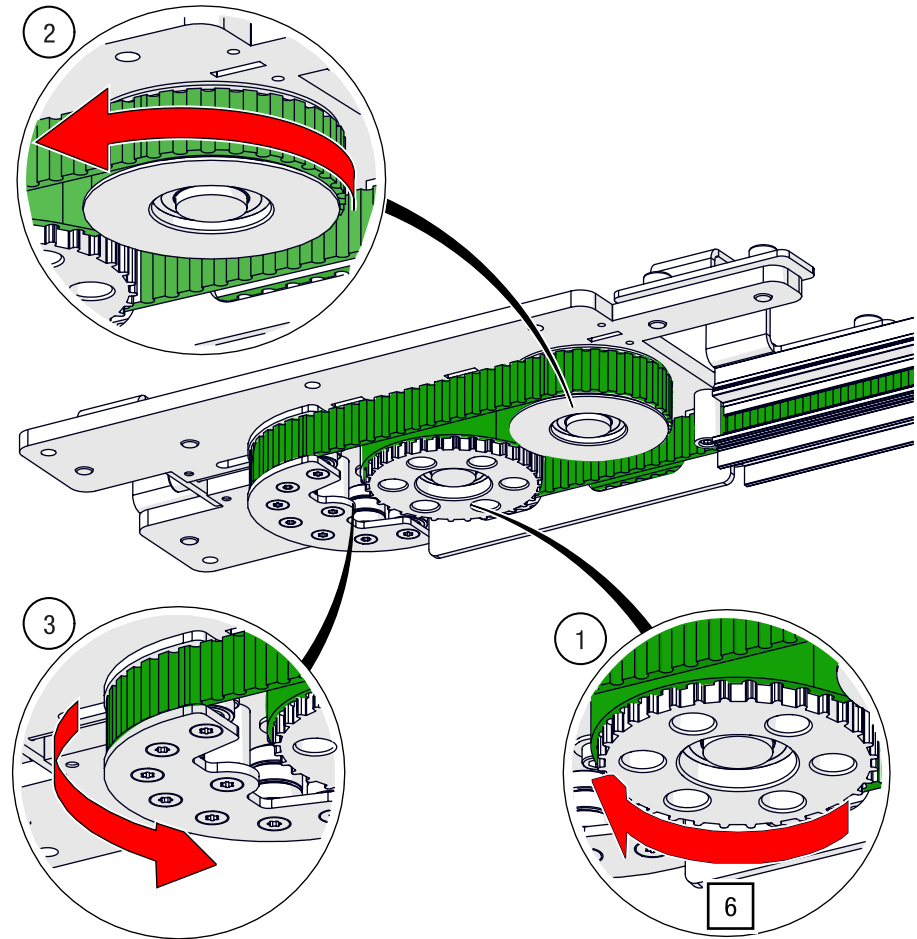

Fig. 81: Timing belt installation – Guide timing belt through motor unit
6. Pull the timing belt through the motor unit while observing the risk of clamping (see Fig. 81).